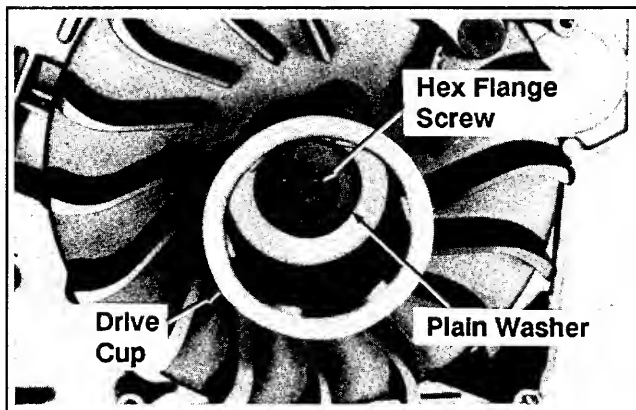

Figure 11-15. Installing The Flywheel.
2. Place the flywheel over the keyway/crankshaft. Install the drive cup, plain washer (flat side of washer towards the drive cup), and the hex. flange screw. See Figure 11-15.